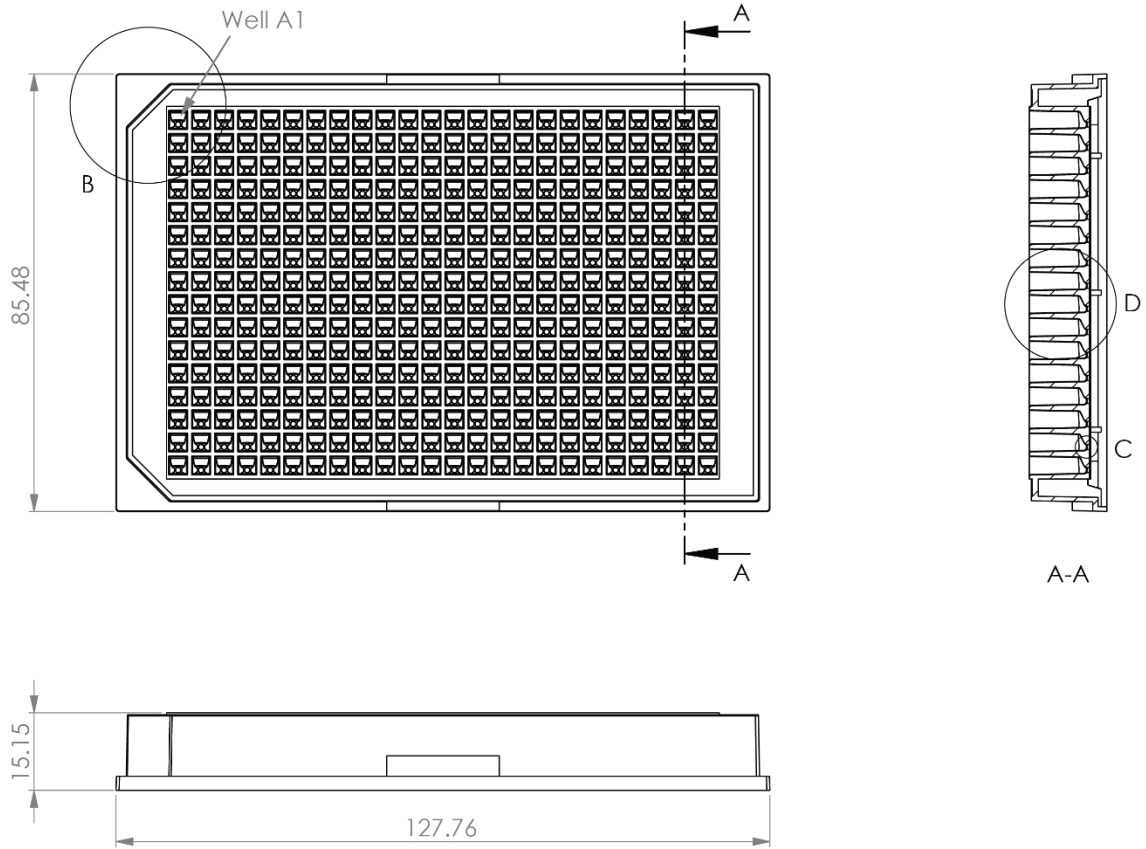

Figure 2: Plate top and side view. Row cross-section.
The Akura™ Twin Plate format is compliant with standard microplate definitions as specified by the SLAS Microplate Standards Advisory Committee ANSI SLAS 1-2004 (R2012). The 384 wells are arranged in 16 rows and 24 columns, identified by alphanumeric well markings on the left side from top to bottom (A-P) and on the top from left to right (1-24). Plate orientation notches are located at the A1 and P1 well corners (Figure 2). Individual wells show a regular wide opening at the top narrowing down into a small, asymmetric cavity at the well bottom, with a flat optically clear base (Figure 1), designed to accommodate spheroids of up to 1 mm in diameter. Always two wells are fluidically connected through a microchannel at the bottom of the well enabling cross-talk between the two wells. The channel height of 0.09 mm prevents spheroids of travelling through the microchannel. In the first (A) and last row (P), the microchannels are oriented along the row. In rows B to O the microchannels are oriented column-wise. Spheroids in the wells and cells in the well and microchannel can be observed using standard imaging equipment. The Akura™ Twin Microplate Technical Specifications provides additional details about plate design and dimensions.